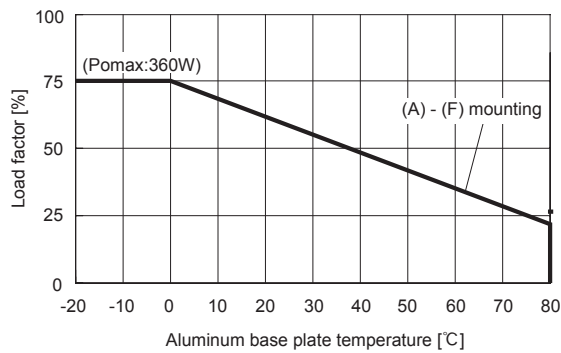

Fig.3.7 Conduction cooling derating curve (Reference value)
①	Line Filter	L101	115	115
②	Varistor	SK101	76	76
③	Input Capacitor	C106	89	89
④	Output Capacitor	C506	87	87
⑤	Rectifier	SS11	120	120	case temperature
⑥	Transformer	T11	110	110
⑦	Output Choke	L51	115	115
⑧	Aluminum base plate	-	*	-
*Operating ambient temperature derating of Conduction cooling (Fig.3.7)